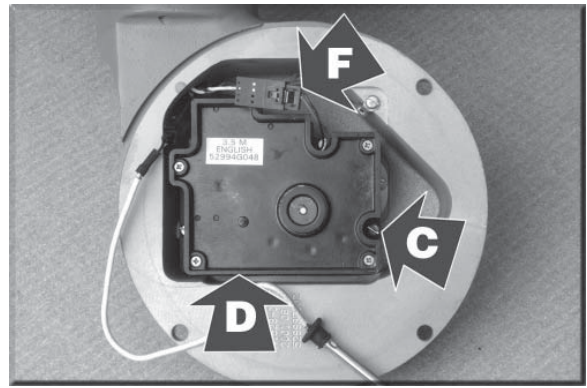

Fig. 8 Removing Register from Cover
- Remove three M3 pan head screws (Fig. 8 “C”), p/n 52620P003, holding the register (Fig. 8 “D”) to the register cover using Quick-Wedge® No. 1734 04241 screw starter (Or Similar).
- Disconnect register pulser switch connection (Fig. 8 “F”).